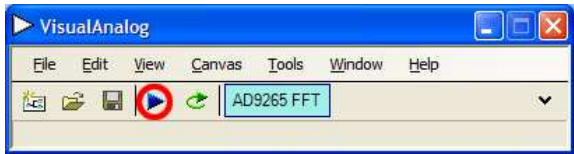

Figure 12. Run Button (Encircled in Red) in VisualAnalog Toolbar, Collapsed Display
- Click the **Run** button in the **VisualAnalog** toolbar (see Figure 12).